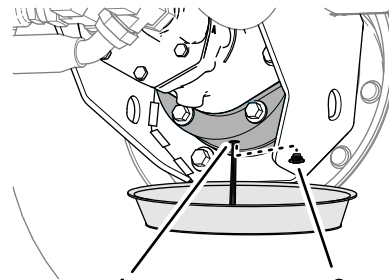

**Figure 96**
2. Place a drain pan under the hub of the planetary-gear drive, remove the drain plug, fill plug, and the check plug, and allow the lubricant to drain completely (Figure 96).